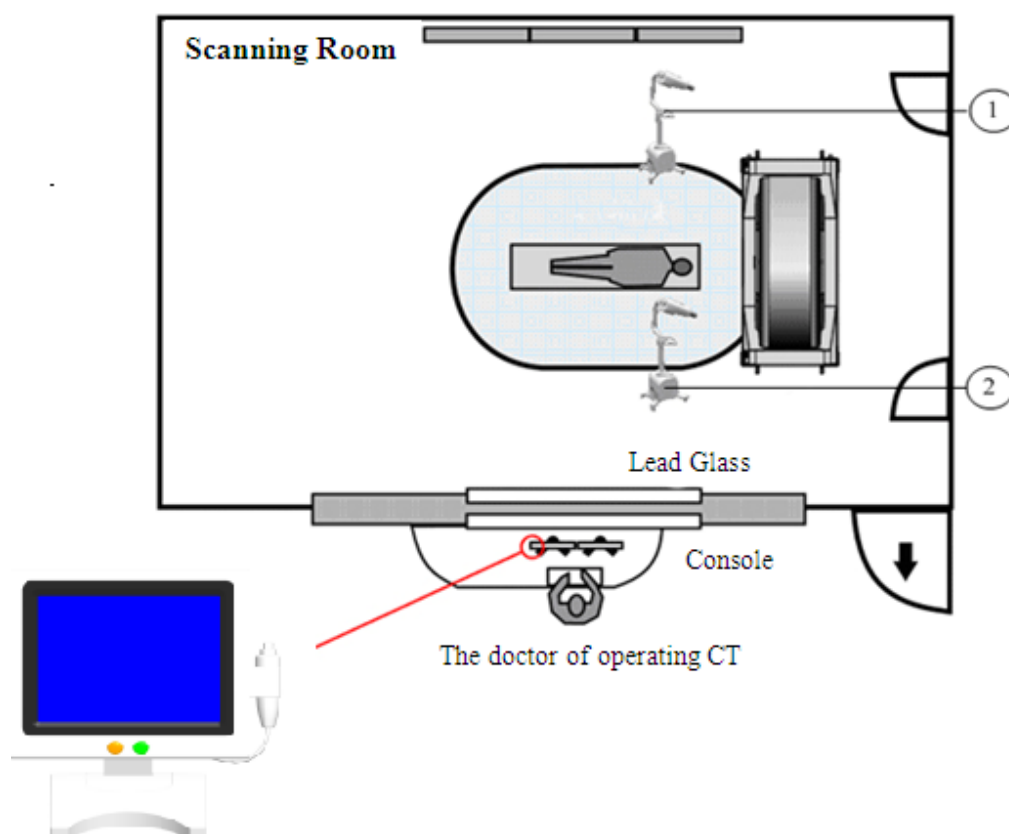

Figure 3.7 Location of ASA-300
The injector will work in the scanning room as figure 3.7. Its location can either ① or ② for convenience of the habit and operation. The touch screen of the injector and operating interface of CT will be put outside shield room for doctor operating.